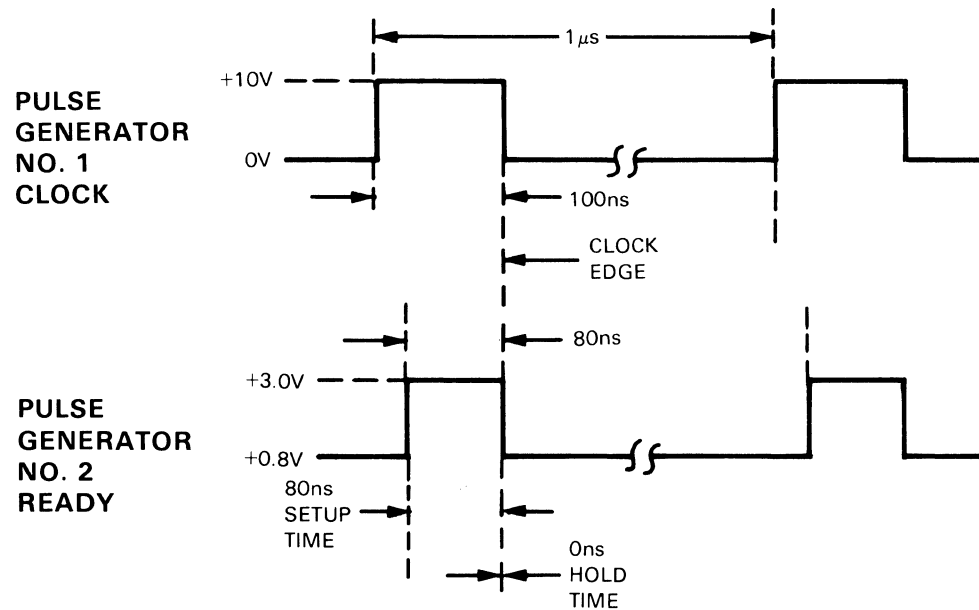

Figure 4-7. Ready Line Test Waveforms
- e. Adjust pulse generators for waveforms shown in figure 4-7.